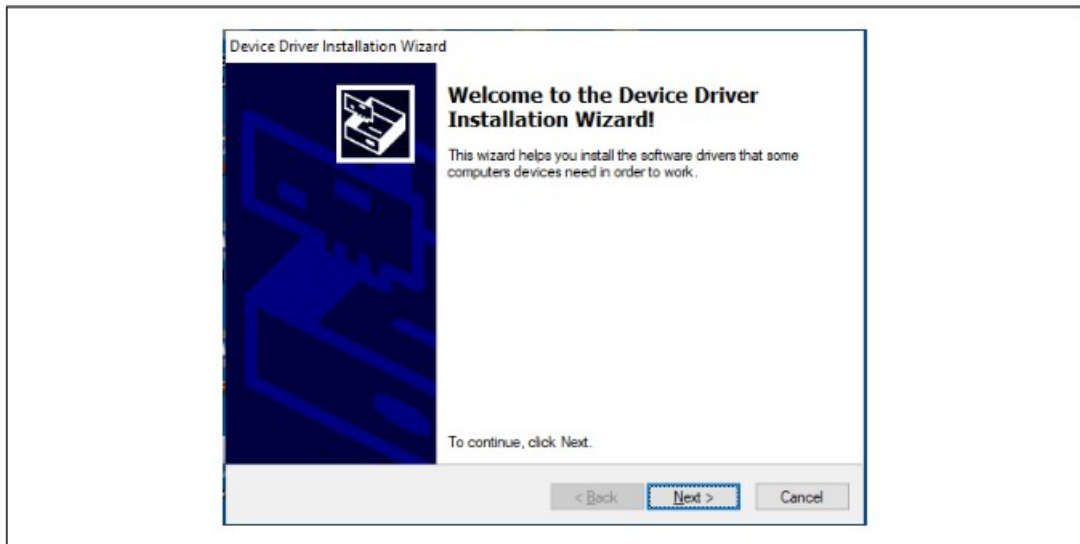

Figure 3. DS9481P-300# Driver Installation.
4. On the Device Driver Installation Wizard screen, click Next and follow the instructions. (Figure 3).